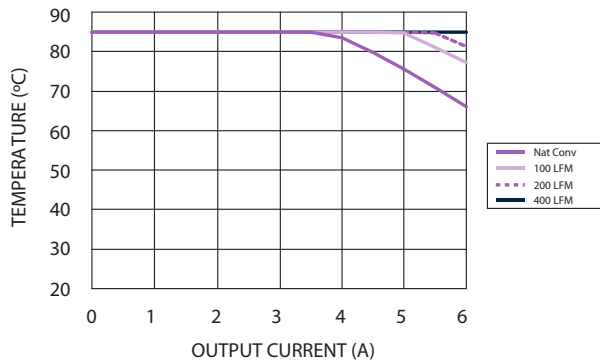

Figure 1 - Safe Operating Area for PTH12050W
2. See Figure 1 for safe operating curve.